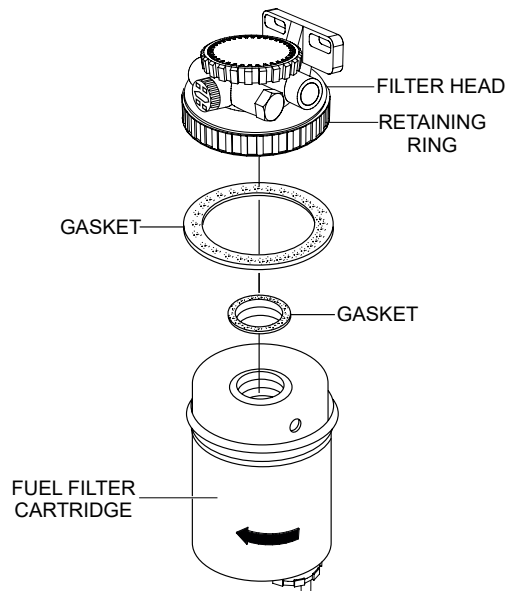

Figure 64. Fuel Filter Cartridge Replacement
1. Use a filter wrench to remove the fuel filter cup (Figure 64) from the fuel filter head.